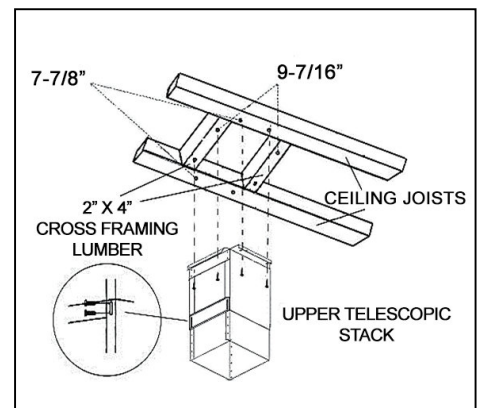

Figure 2
11. Cut and remove the ceiling drywall. Install a 2" x 4" cross lumber frame (not provided) between ceiling joists as shown in Figure 2.